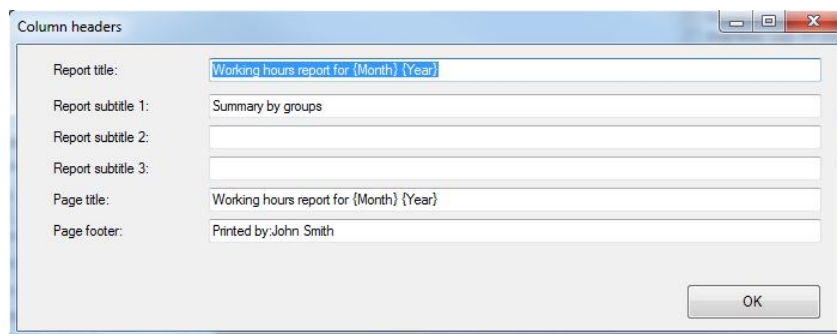

Figure 30. Changing report headers
9. Click the **CONFIGURE REPORT HEADERS** button. Dialog box similar to this shown in Figure 30 will display.